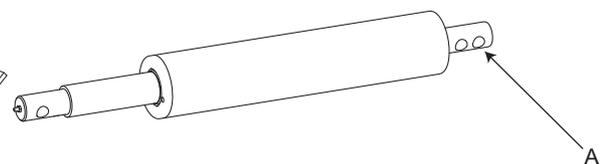

Figure 3.11
If there is not enough range of adjustment on the slave cylinders, the master cylinder can be moved to its other securing hole (A), see "Figure 3.11". The aforementioned adjustment is a basic setting. The harrow must also be fine adjusted out in the field if a 100% work result is to be obtained.